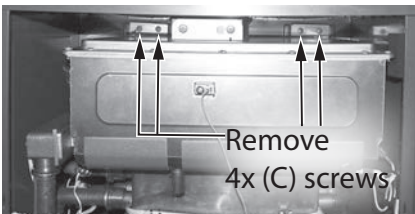

Figure 154 - Removing secondary HEX (C) screws
- 46 Locate the two brackets and four (C) screws securing the secondary heat exchanger assembly to the backside of the water heater cabinet as shown in Figure 154. Use a 12" magnetized Phillips screwdriver to remove the screws. Place them aside in a safe place for reinstallation.
**74** Locate the four secondary heat exchanger mounting screws previously removed in **Step 46**. Use a 12" magnetized Phillips screwdriver and four screws to secure the heat exchanger to the water heater cabinet. See Figure 154.